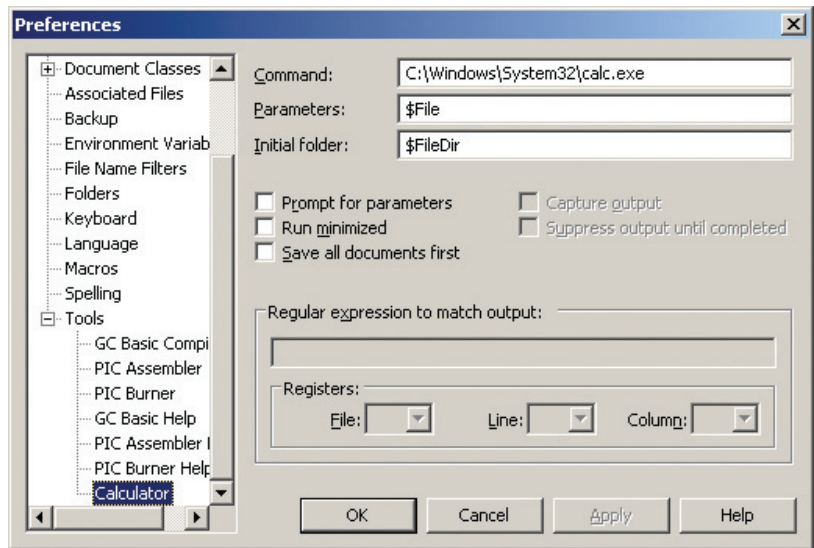

Figure 6: The tool entry box for the Windows calculator.
Figure 6 shows what the installation
Next, click the Object menu and Group so that now these two circles travel as a unit. You should have something that looks like Figure 6.
■ FIGURE 6. Drawing circles.